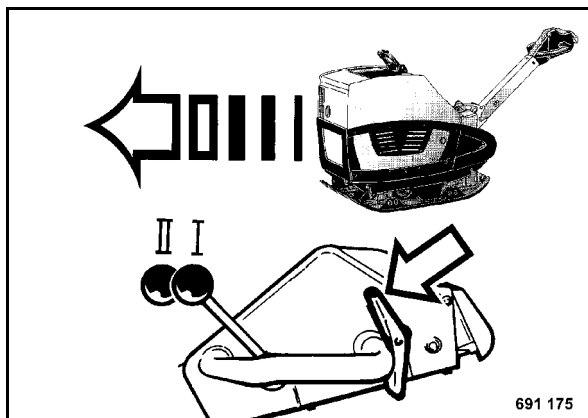

Fig. 33
- Press the upper part of the travel lever (tip switch) (Fig. 33), until the vibratory plate has reached the desired forward travel speed.